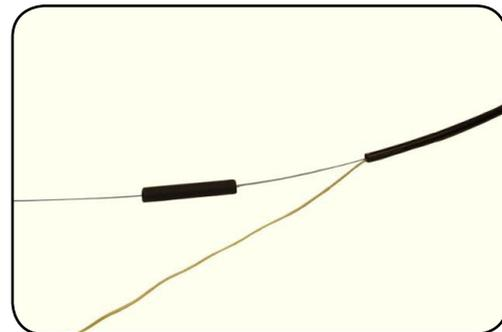

Figure 6
**Step 6:** Cut a 1" piece of 1/8" adhesive lined heatshrink (available from Clearfield), fold the Kevlar strength members back over the outside of the cable. Slide the heatshrink over the fiber and on to the outside of the 3mm cable holding back the Kevlar (Figure 6).